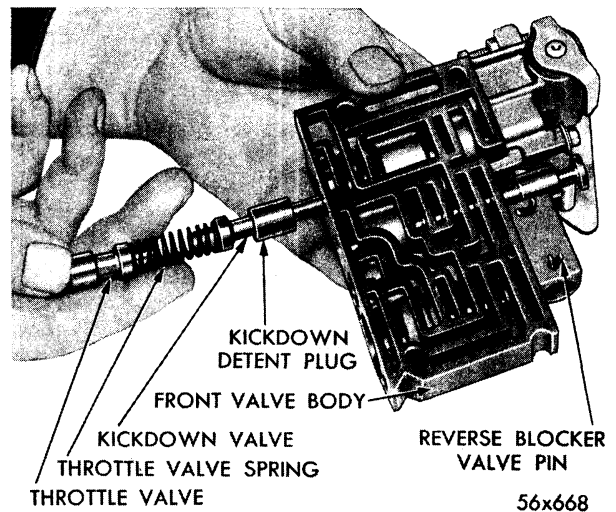

Fig. 112—Removal and Installation of Throttle Valve, Spring, Kickdown Valve and Detent Plug
Remove throttle valve, spring, kickdown valve, and detent plug, as shown in Figure 112. It is unnecessary to remove detent plug retaining bolt and lockwasher. Remove cotter pin from valve body in outer end of reverse blocker valve. Remove reverse blocker valve plug (N), blocker valve (O), and spring (P). Normally it isn't necessary to remove the throttle valve lever shaft (Q) manual valve lever